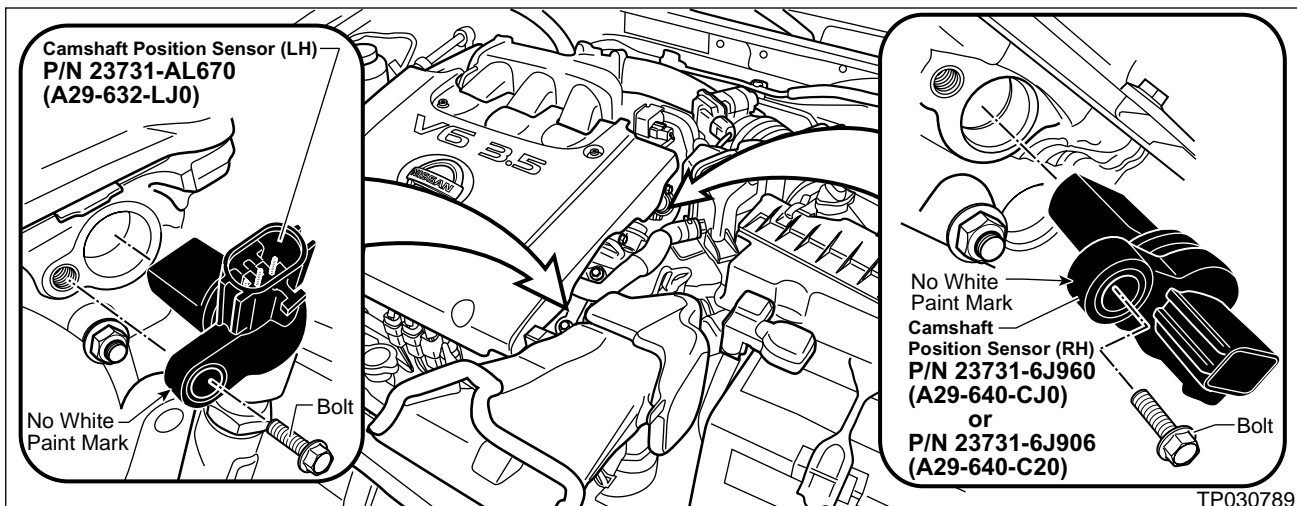

Figure 10
3. Locate the **Camshaft Position Sensors** (see Figure 10).